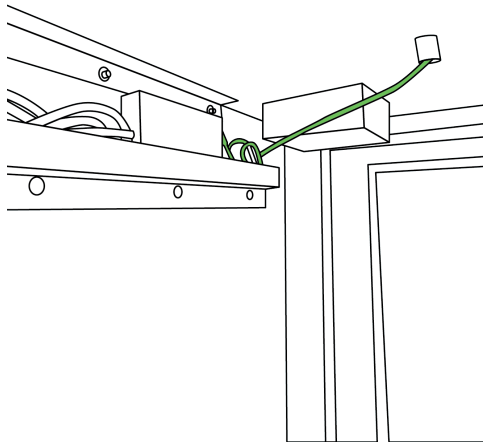

Figure 6-27. Elo Touchscreen power cord threaded through the top of the compartment
4. Thread the DC barrel of the power cord towards the hole in the top of the compartment and plug it into the Elo Touchscreen (Figure 6-27).